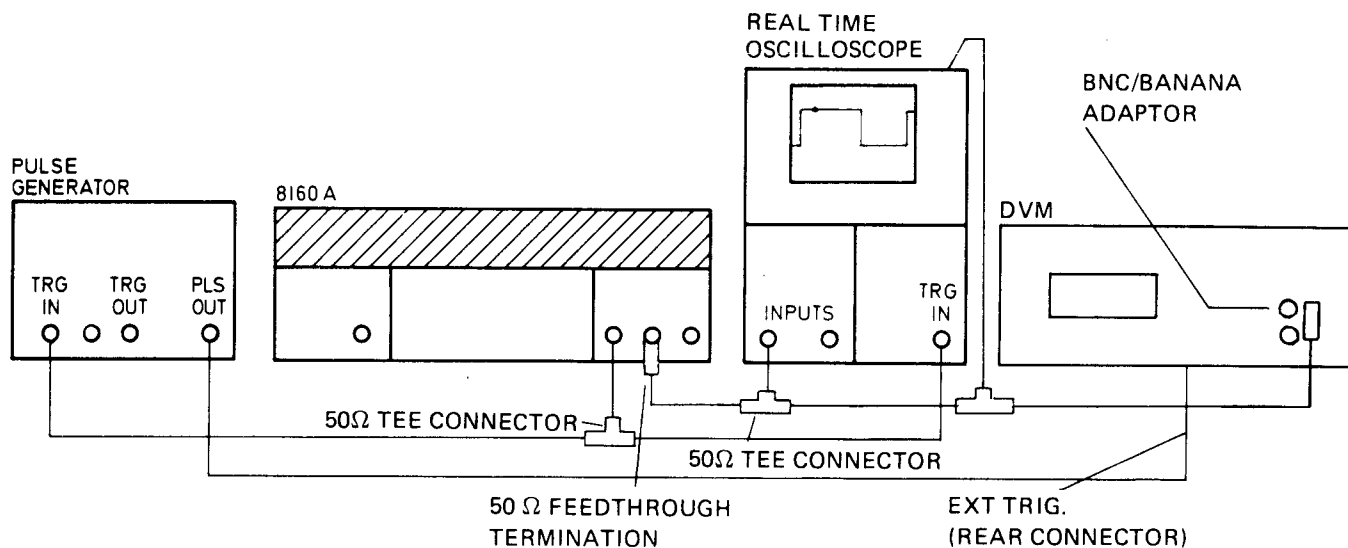

Figure 4-17. HIL, LOL Test Set-up
1. Connect equipment as shown in fig. 4-17.